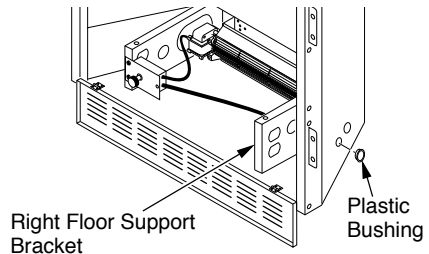

Figure 21 - Installing Plastic Bushing for Power Cord (Right Side Exit Shown)
- If your firebox is installed as a freestanding unit with an accessory mantel, determine whether the power cord will exit the left side or the right side of the firebox. Install one plastic bushing provided into the 1 1/2" hole in the floor support on the exit side. Install the second bushing provided into the 1 1/2" hole in the outer casing through which the power cord will exit (see Figures 21 and 22). Route power cord through plastic bushings and plug the power cord into a properly grounded three-prong wall receptacle near the firebox.